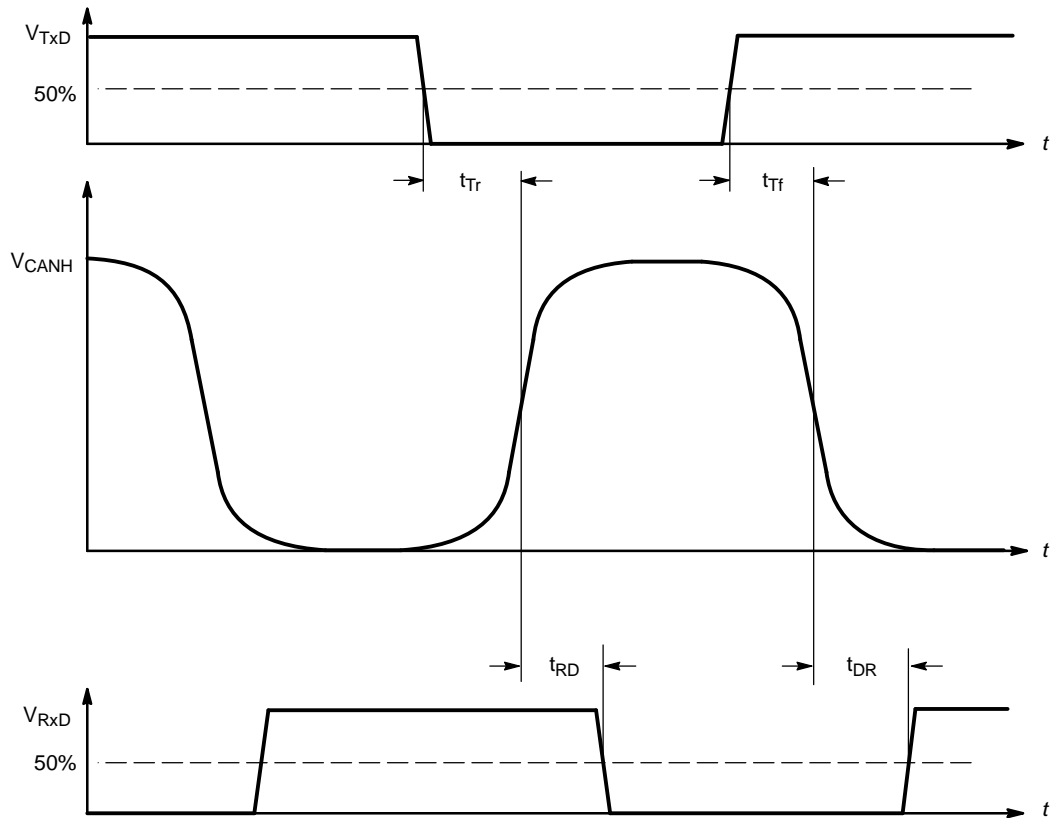

Figure 6. Input/Output Timing
**AC CHARACTERISTICS** (See Figures 6, 7, and 8)